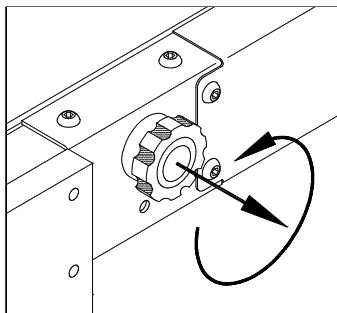

FIGURE 2-14: COUNTER-CLOCKWISE OPENS ROLLSTOP
- c. Refer to **Figure 2-14**. Pull rollstop control knob OUT and rotate fully COUNTER-CLOCKWISE. Rollstop must lie flat on ground.